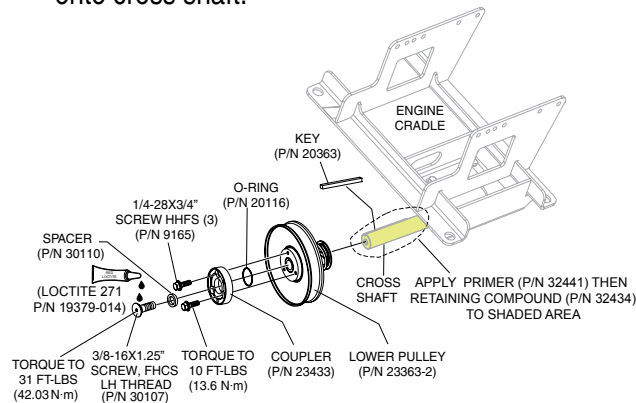

Figure 16. Lower Pulley Installation
Reference Figure 16.
1. Apply primer (Loctite 7649, P/N 32441) to the cross shaft and key way in the shaded area shown in Figure 16.